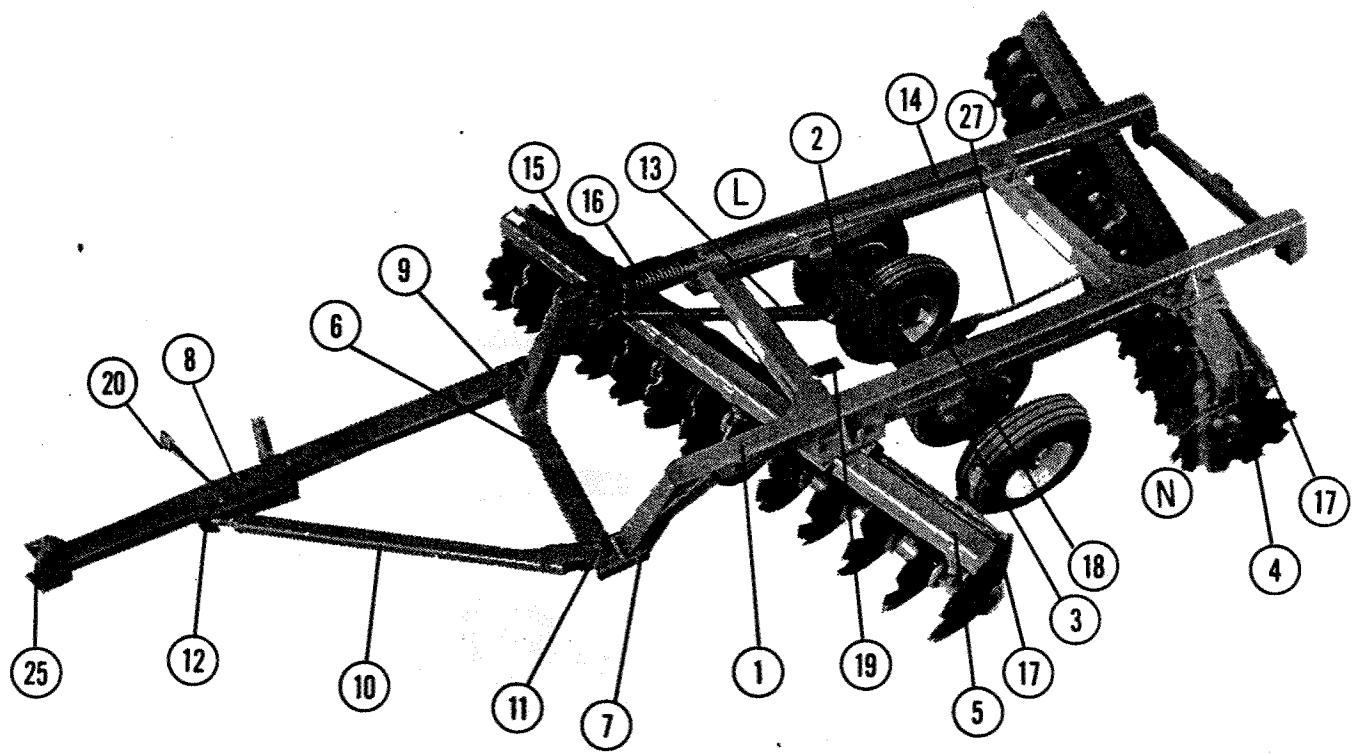

Figure 1
1. **To Install Wheel Carriage and Wheels:** (Refer to Figure 1) Place wheel carriage(2) under the main frame(1) and attach frame with pins(3). Install 5/16 x 2 lock bolts in pins and tighten lock nuts securely. Install wheels on to hubs with wheel bolts provided and tighten securely.
2. **To Attach Gang Bars to Frame:** (Refer to Figure 1) Bolt rear gang bar(4) to main frame(1) in center set of offsetting holes and in next-to-maximum angle with  $\frac{7}{8}$  x 3 1/2 bolts. Install leveling washers on top of angling plates on long side of disc(L). Install leveling washers between gang bar and angling plates on narrow side of disc(N). Bolt front gang bar(5) to main frame in next to maximum angle with  $\frac{7}{8}$  x 3 1/2 bolts. Install leveling washers same as rear gang.
3. **To Attach Hitch Bridle to Frame:** (Refer to Figure 1) Place bridle(6) at front of frame(1) and attach with pins(7). Install lock bolts and tighten nuts securely.
4. **To Attach Hitch Pole to Bridle:** (Refer to Figure 1) Attach main hitch pole(8) to bridle(6) at lead corner(9) with 1 x 6 bolt. Attach hitch side arm(10) to opposite side of bridle(11) with 1 x 6 bolt. Join hitch pole and side arm with 1" pin at adjustable eye bolt(12). Tighten all bolts securely.
5. **To Attach Fore-Aft Leveling Assembly:** (Refer to Figure 1) Install short tube(13) to wheel carriage with 1" pin. Install long tube(14) with 1" pin. Slide short fore-aft eye bolt(15) into bottom tube(13) (pinned to wheel carriage) and pin to bottom hole of bridle mast(6). Slide long fore-aft eye bolt c/w spring and washers into top tube(14) (attached to main frame) and pin to top hole of bridle mast(6).
6. **To Attach Scrapers:** (Refer to Figure 1) Attach scraper bars(17) to gang bars (4 & 5) with carriage bolts provided. Attach scrapers to scraper bar with clamps and bolts provided use care to adjust scrapers close to discs but not rubbing.
7. **To Double Wide Right and Left Hand Offsets:** (Refer to Double Wide drawing). Set together following regular instructions except item No. 4 - to attach hitch pole to bridle - the hitch pole is attached to the opposite side from the lead corner and the side arm is attached to the lead corner with 1 x 6 bolt. Set left hand disc(1) stationary and pull right hand disc(1) along side leaving front gang of right hand disc behind front gang of left hand disc. Attach rear spreader bar(5) with pins. Attach front spreader bar(6) with pins. Join right hand main hitch pole to left hand main hitch pole(3) with 1 1/4" pin(7). Adjust swivel flapper with 1 x 6 bolt for proper direction(8).
1. **Hydraulic Cylinder and Hoses:** (Refer to Figure 1) A standard 8" stroke double acting hydraulic cylinder is required to lift disc. Two 18 ft. hydraulic hoses are needed to allow full offsetting and turning without hose damage.
**CAUTION:** Be certain the rod or moving end of the cylinder is to the rear(18) with the butt end to the front at main frame(19). Fasten the hoses through hose stand(20) with enough slack to allow tractor to turn, but without enough to let hose drag.
2. **Angle Changing:** (Refer to Figure 1) To change angle. Raise disc on wheels until discs are clear of ground. Remove bolt(21) and loosen the three remaining bolts. Slide gang bar forward or backward as desired. Replace bolt and tighten all bolts securely. For ordinary conditions set both front and rear gangs in next to maximum angle. Increase angles as required to suit conditions.
4. **Offsetting The Hitch:** (Refer to Figure 1) This unit is designed to trail straight behind the tractor. Minimum side draft will be obtained when the hitch is in line with outside beam of main frame. If more adjustment is required screw hitch side arm eye bolt(12) to desired position, then retighten jamb nut to reduce pressure on eye bolt thread.
5. **Hitch Height:** (Refer to Figure 1) The hitch pole should always be as near level as possible when discing. Flapper hitch(25) can be raised or lowered to proper tongue level of tractor. (Not adjustable on Series 250)
- A. **Front to Rear:** (Refer to Figure 1) With disc raised and hitch to tractor, adjust bottom fore-aft eye bolt(15) until main frame is level. Adjust fore-aft spring lock(16) until spring is snug. The top spring should be under some compression when discing, but should never be compressed solidly. NOTE: In general use as little pressure as possible when discing.
7. **Transporting:** (Refer to Figure 1) Disc may be transported without using hydraulic cylinder. Place the rod(27) through the hole in anchor on frame(1) and place clevis over transport block. Raise the disc until the cylinder has reached the end of its stroke. Insert pin in clevis and adjust transport rod nut until there is about  $\frac{1}{8}$ " between nut and transport anchor. Release pressure on hydraulic cylinder and remove. **CAUTION:** Extreme care should be taken not to collapse the cylinder too much with the transport rod in transport position.